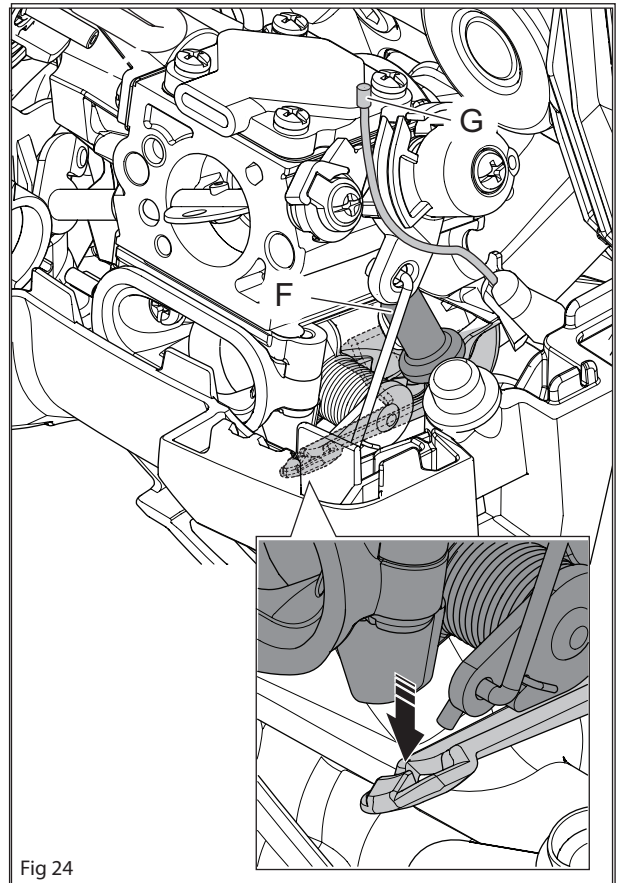

Fig 24
Fit the lower screws of the intake system using the POP-out hole and the fuel hose hole. Fit the other screws. Fit the fuel hose and the throttle cable to their attachments. See figure 24.
**NOTE!** Press the lug on the carburettor in place on its bracket on the partition wall. See figure 24.